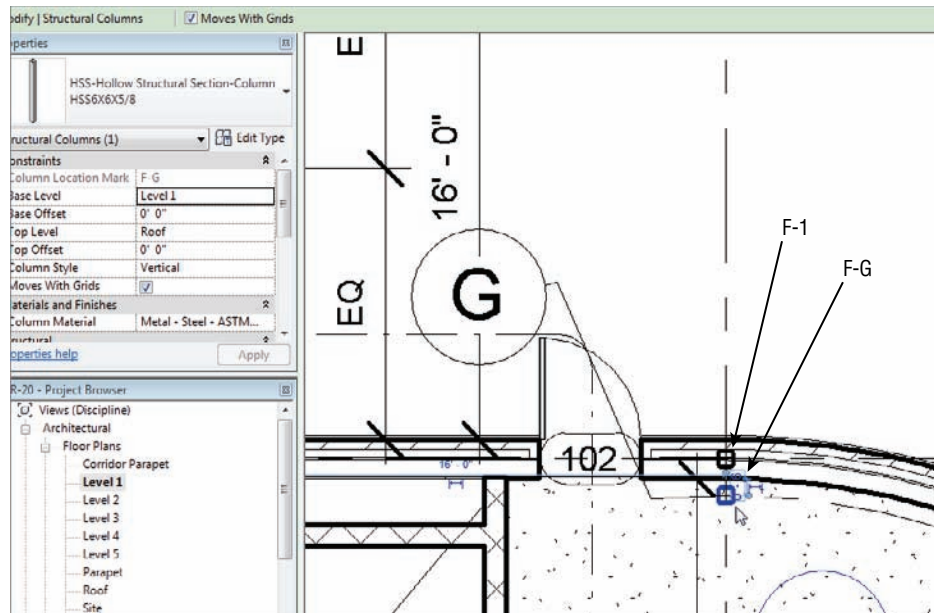

FIGURE 8.25 Placing the two additional columns
15. Set the column height Option to Roof. Place another column at grid intersection F-G (see Figure 8.25).